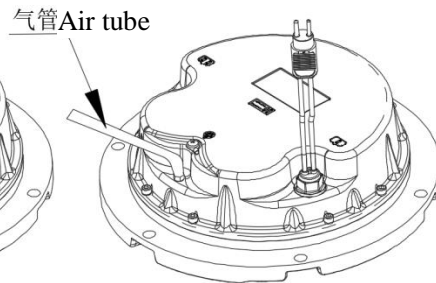

Figure 4-21
- Prepare 138Kpa air source (the air pressure shall not be greater than 150Kpa) and applicable air gun (air tube), inflate the air by aiming at the valve (Figure 4-21) until the air pressure in the lighting fixture meets the requirements. Put this lighting fixture into the water with the depth of 76mm for at least 1min and check whether there are bubbles under the state of static water surface. If not, it means that the sealing property of the lighting fixture is good, otherwise it shall be deemed that the lighting fixture has leakage.